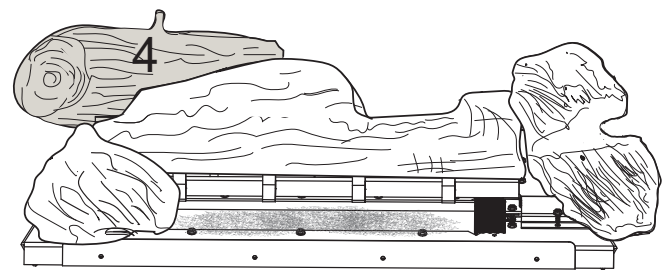

Figure 14 - Log #4 Placement
5. Hold log #4 with the pointed end toward the right. Place log #4 by positioning the pin locator hole on the bottom of the log over the rear left pin on the burner assembly toward the back and resting the left end of the log over log #3. Make sure that the flat surface on the back of the log rest against the rear bend on the burner assembly. See Figure 14.